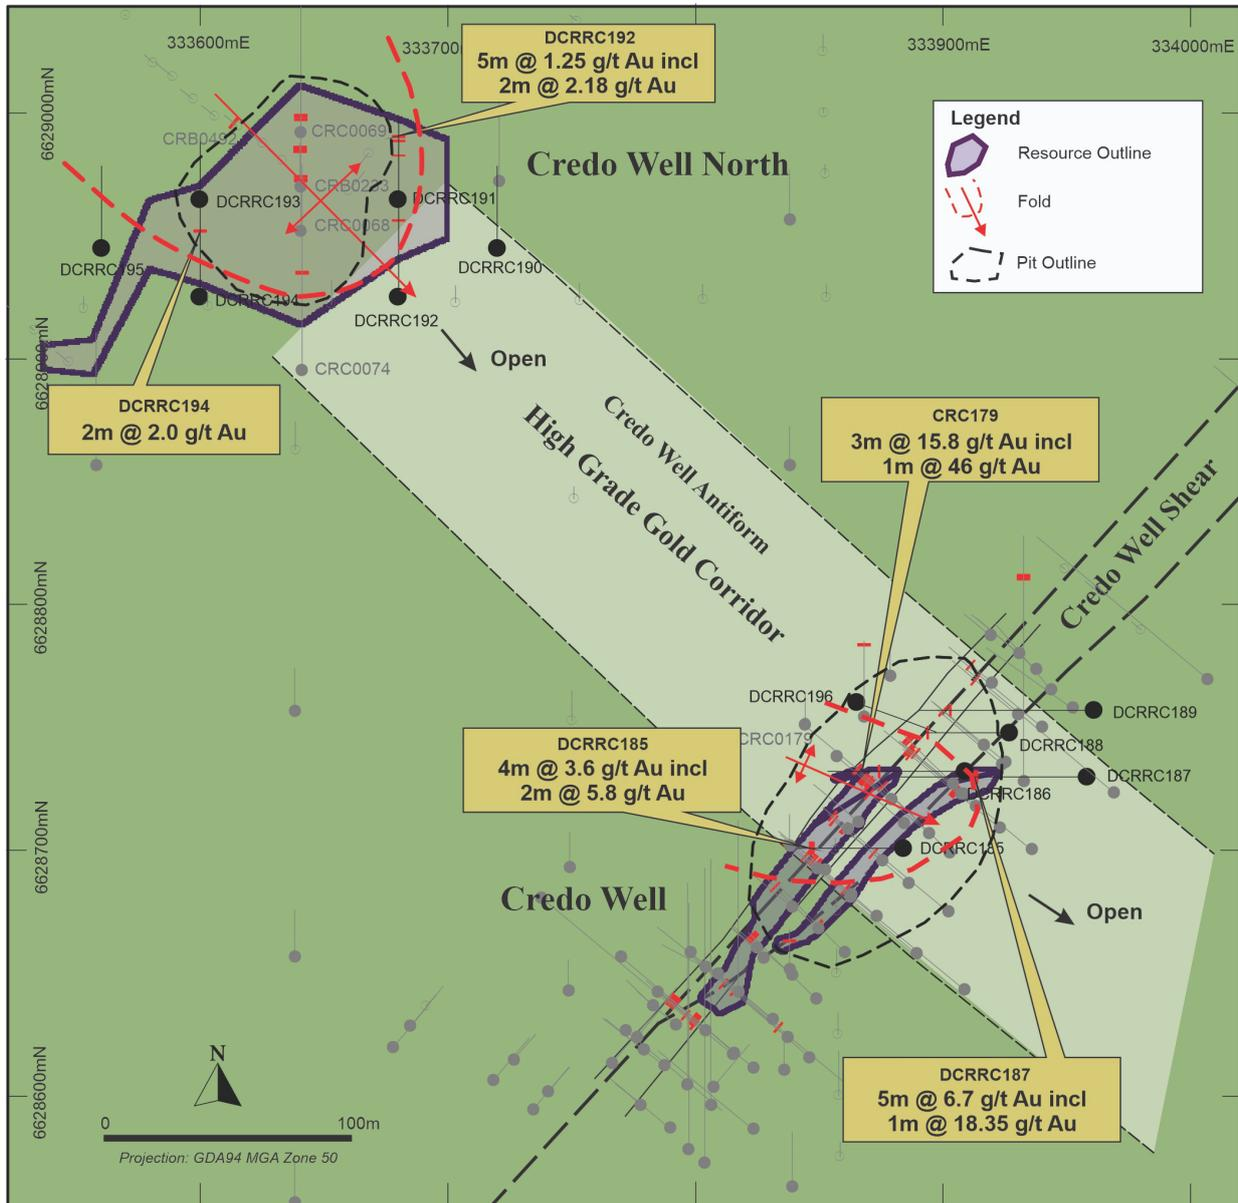

Figure 5 – Credo Well Main/Credo Well North Area Showing Resource Areas and Drilling
- Credo Well North - additional Reverse Circulation and Diamond drilling is being planned to infill the existing mineralisation to 20m by 20m spacing and to target down-dip extensions and/or new zones between the Credo Well North and Credo Well Main areas (Figure 5).